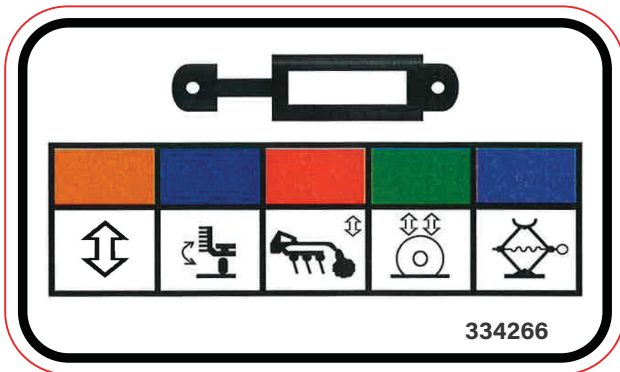

Figure 3.1 Tillage Hydraulic Connections Decal
9. Install the wing lift, shank lift, wheel lift, hydraulic jack and rolling basket cylinder hoses on the tractor. Be sure the hose couplers are secured in the tractor couplers. Refer to “Figure 3.1 Tillage Hydraulic Connections Decal on page 20”.